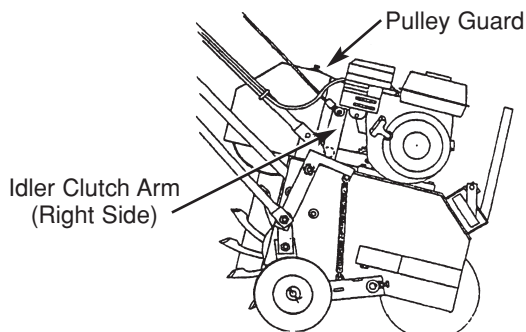

Fig. 2
Models TA-19D/TA-26D (water drum models) - Qty 3, one in each rear wheel assembly and one on the idler/clutch arm pivot bearing. (See Fig. 2.)
Models TA-19/TA-26 (front tire models) - Qty. 5, one in each wheel assembly and one on the idler/clutch arm pivot bearing. (See Fig. 2.)
Models TA-17D/TA-25D - Qty. 4, one in each wheel assembly and one in each idler/clutch arm pivot bearing. (See Fig. 2.)
2. Take off pulley guard (see Fig. 2) by removing bolts, etc. which attach it to the frame.